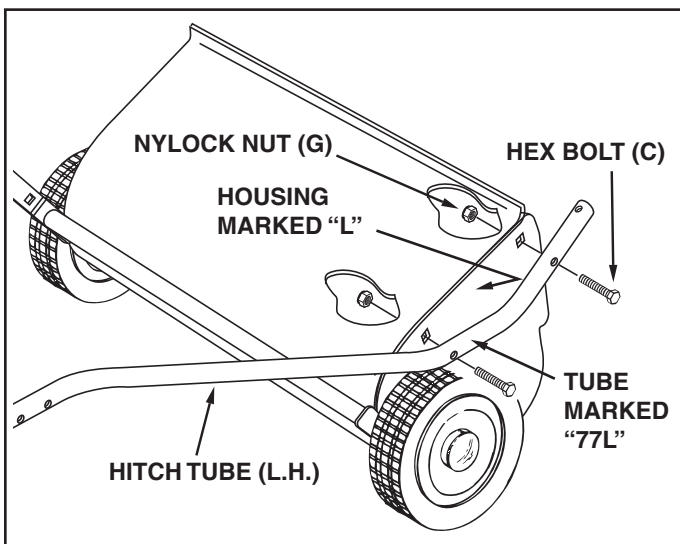

FIGURE 5
STEP 6: (SEE FIGURES 5 AND 6)
- Hold the left hitch tube against the left side of the sweeper so that the "77L" on the tube faces **away** from the sweeper. Attach the hitch tube using two hex bolts (C) and nylock nuts (G). **Do not tighten yet.**